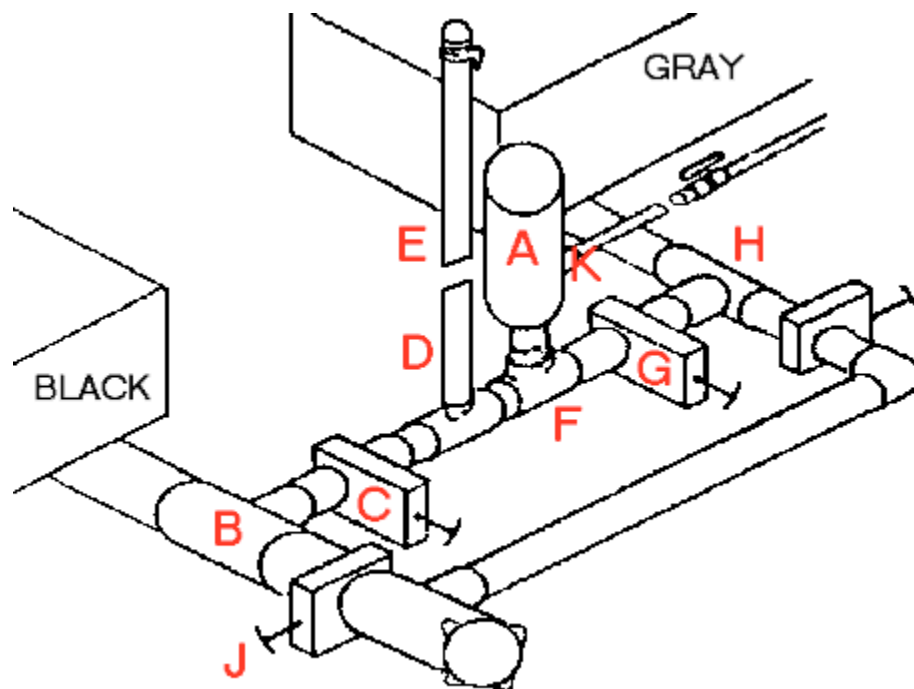

Fig.1 TYPICAL SEMI-PERMANENT MACERATOR HOOKUP
Because of the variety of plumbing layouts in RVs, it's impossible to show a specific arrangement of fittings. The drawing at Figure 1 shows a typical RV waste tank and valve arrangement modified to accept a semi-permanently mounted macerator. If you're fortunate, you'll have just such a straightforward, squared-off arrangement. Some RVs have lines that come together at angles or other odd-ball configurations. In these cases, it's a matter of planning the layout to use angled fittings, squeezing things in the space available, and using branches from the main line rather than the simple in-between arrangement shown.
### EXPLANATION OF THE SYSTEM IN FIGURE 1
**B**--End of the garden hose from Figure 1. It should have some clear poly hose and a hose stop at the end.
**A**--Macerator output. (Point (K) in Figure 1.) Attached to it with hose clamp is a 1" inside diameter (ID) clear poly hose. Length can vary, but about 6" provides easy viewing of contents. (Some macerator models have a standard male garden hose fitting at this point, use hose fittings and